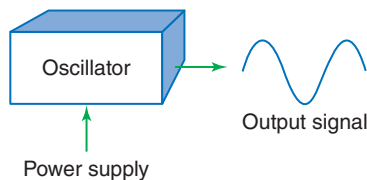

Fig. 1-6 A block with only a power supply input.
Figure 1-6 shows a block with only one input (power) and one output. Assuming the output signal is missing or incorrect, the possibilities are: (1) the power supply is defective, (2) the oscillator is defective, (3) or both are defective.